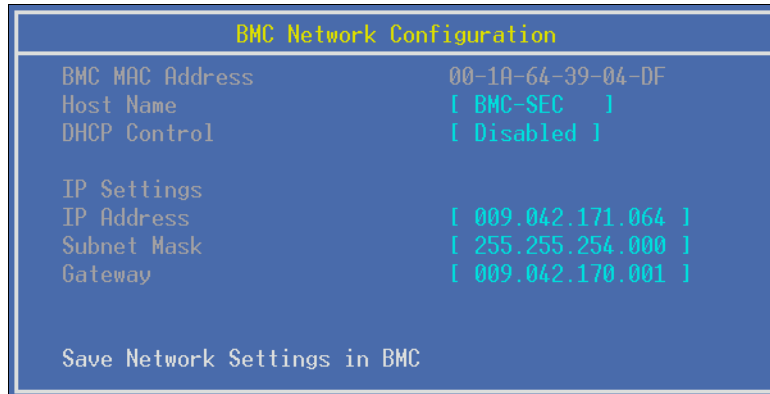

Figure 6-2 BIOS: BMC Network Configuration settings menu
3. Select the **BMC Network Configuration** to open the BMC Network Configuration menu, shown in Figure 6-2.